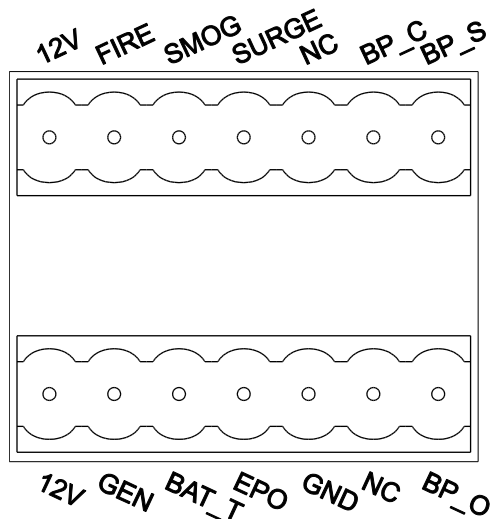

Figure 13 Dry contact relay sockets
3. Using the information in the tables above, wire your signal cables to the terminal block (Figure 13).